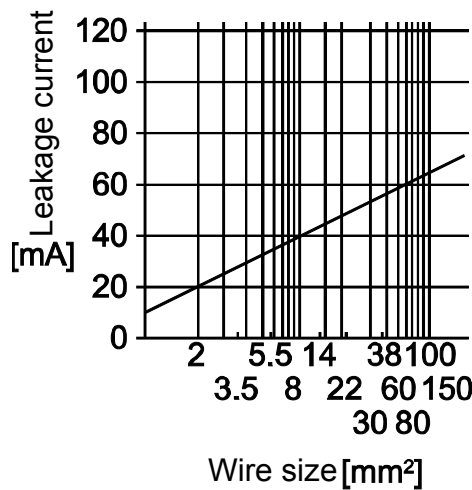

Figure 7.1 Leakage current example per 1 km with CV cables with metal wiring (I_{g1}, I_{g2})
- I_{g1}: Leakage current on the electric path from the earth-leakage current breaker to the servo amplifier input terminal (obtain from Figure 7.1)
- I_{g2}: Leakage current on the electric path from the servo amplifier output terminal to the servo motor (obtain from Figure 7.1)